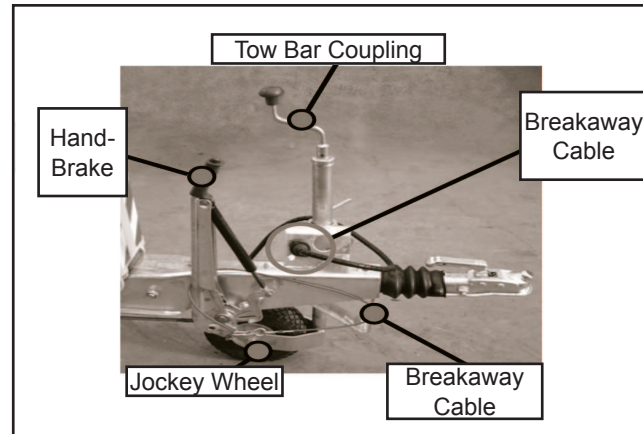

Figure 2-23 - Illustration Of A Jockey Wheel.
5. Use the jockey wheel to raise or lower the tow bar coupling to position the machine above the 50 mm ball hitch on the towing vehicle (refer to Figure 2-23).